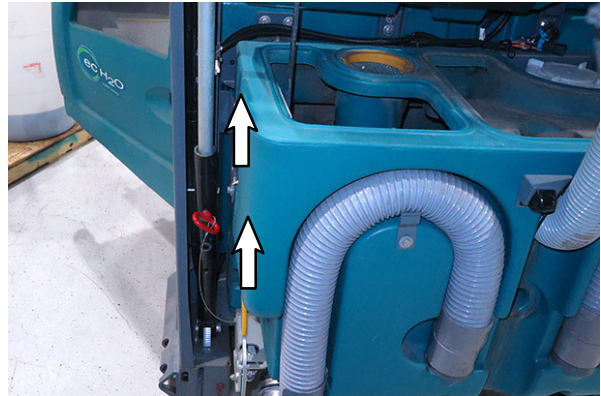

FIG. 18
**T20 Only:** Continue routing the blue spotlight harness (14) rear blue light lead along the main wire harness to center of machine between the solution tank and recovery tank.
26. **M20/M30 Only:** Route blue spotlight harness (14) rear blue light lead along the main wire harness, up the hopper lift leg, and through the hole in the lift leg. (Fig. 18/ Fig. 19)